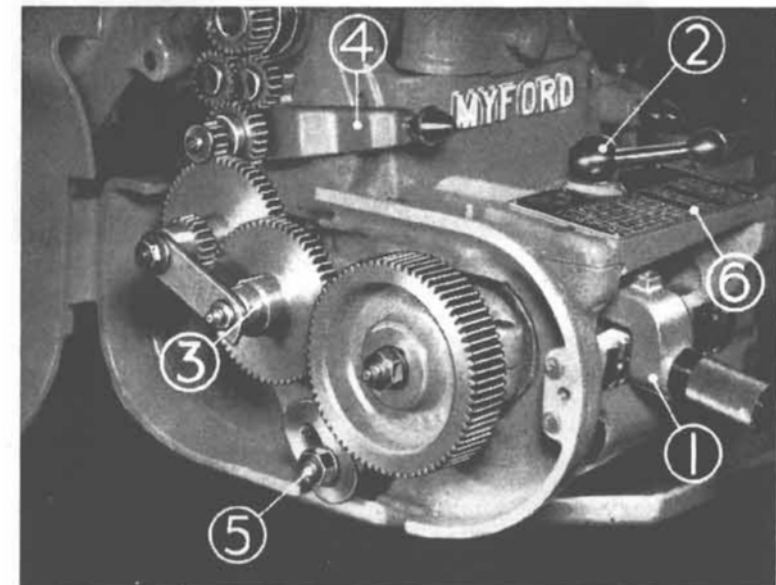

Fig. 7. Quick Change Gear Box Controls. 7
The Myford gear box is designed for smooth and easy operation. To obtain the various threads and feeds it is only necessary to arrange the levers of the gear box and the reversible cluster gear, as indicated on the Chart (6) Fig. 7.
The SELECTOR (1) selects any one of the eight ratios available from the 'cone' of gears on the lower shaft. The indexing position of the lever is always directly below the column on the chart which contains the thread or feed desired. (See Fig. 7).
- (1) Disengage tumbler reverse.
- (2) Set reversible cluster, 3 Fig. 7, in screwcutting position, i.e. with smaller gear (19 teeth) innermost.
- (3) Set lever, 2 Fig. 7, on top of box, in a position giving disengagement of gearing.
- (4) Set selector, 1 Fig. 7, in 8 T.P.I. position.